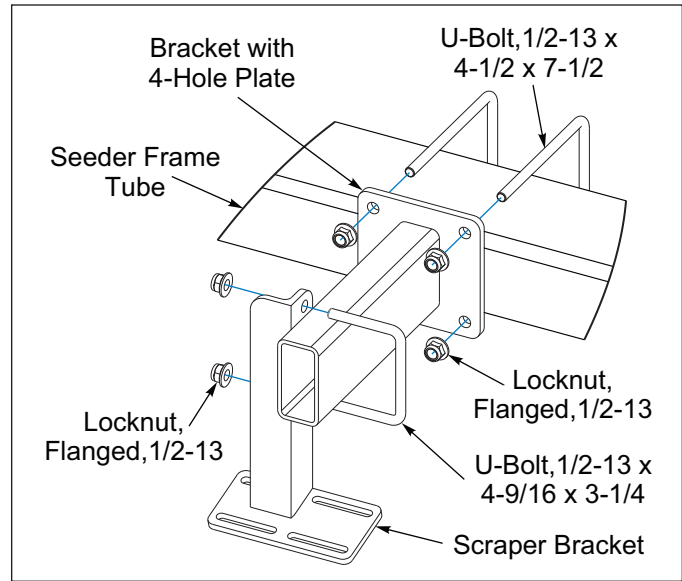

Figure 2-59: Scraper Brackets
3. Attach the Scraper Brackets to the Bracket Tube with a 1/2-13 x 4-9/16 x 3-1/4 U-Bolt and Flange Locknuts. Do Not tighten at this time. See Figure 2-59.